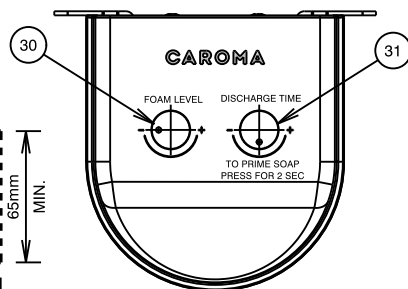

Fig. 1 - Soap control unit functions
- \* Only water based foam soap must be used. Use of non-foam liquid soap may cause blockage and damage the system. The foam level knob (30) can be turned towards (+) or (-) to increase or decrease the air amount until a smooth and consistent foam is dispensed. Fig. 1
- \* Soap control unit must be primed before first use and after every refill. Follow priming instructions, as shown in Fig. 1.
- \* The soap control unit (12) is mains powered only. Separate battery box is supplied which can be used as a battery backup.